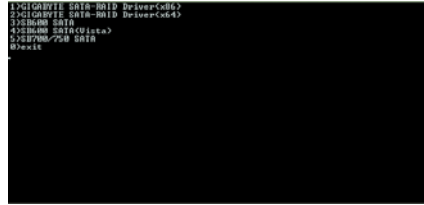
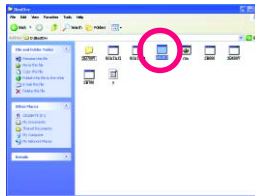

Figure 2
Figure 3
Step 2: When the controller menu (Figure 2) appears, remove the startup disk and insert the blank formatted disk. Select the controller driver by pressing the corresponding letter from the menu. For example, from the menu in Figure 2, to install Windows XP to your RAID/AHCI hard drives, select **(5) SB700/750 SATA** for the AMD SB700 SATA controller. Your system will then automatically zip and transfer this driver file to the floppy disk. Press <0> to exit when finished.
Use an alternative system and insert the motherboard driver disk. From your optical drive folder, double click the **MENU.exe** file in the **BootDrv** folder (Figure 3). A command prompt window will open similar to that in Figure 2.